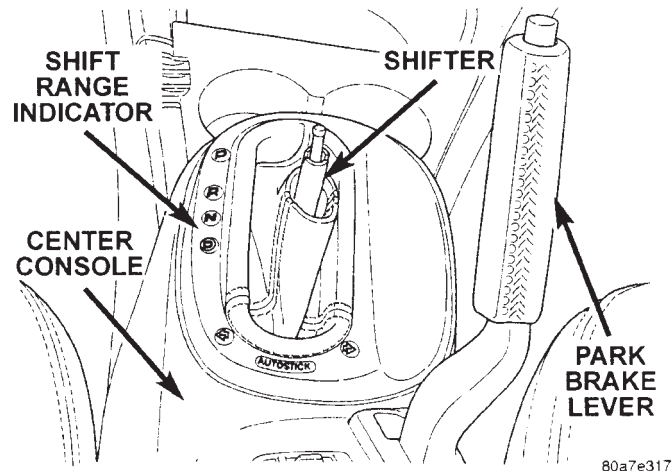

Fig. 122 Shift Range Indicator
the center console using retaining clips. It is removed by carefully prying it off the center console. The shift range indicator covers the 2 screws attaching the center console to the shifter mechanism. (Fig. 122).
(13) Install the transmission range indicator (Fig. 122) in the center console.